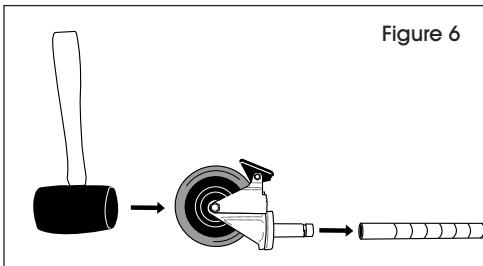

Figure 6
- Ensure post is positioned as shown. (See Figure 6)
- Engage the wheel brakes to keep casters from spinning during installation. Use a rubber mallet to tap caster stem into posts. (See Figure 6)